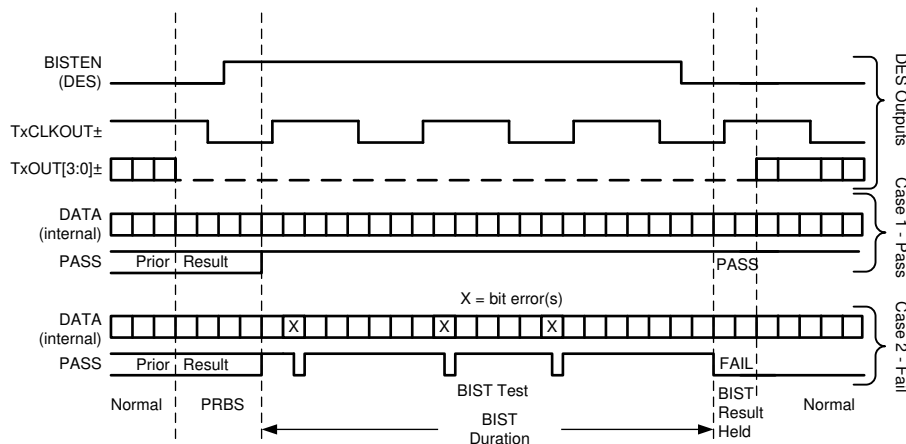

Figure 29. BIST Waveforms, in Conjunction With Deserializer Signals
**Step 4:** The link returns to normal operation after the deserializer BISTEN pin is low. Figure 29 shows the waveform diagram of a typical BIST test for two cases. Case 1 is error free, and Case 2 shows one with multiple errors. In most cases, it is difficult to generate errors due to the robustness of the link (differential data transmission and so forth), thus they may be introduced by greatly extending the cable length, faulting the interconnect medium, or reducing signal condition enhancements (Rx Equalization).